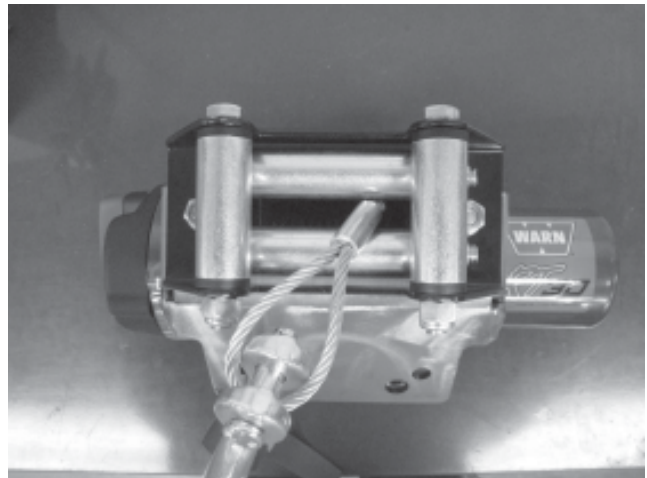

Figure 9
5. Place the fairlead over the adapter bracket, feeding the bolts through the mounting holes on the fairlead. Tighten two lock washers with two M10 nuts using a 16mm socket and 17mm wrench. Install the hook by placing the clevis pin through the hook and securing with cotter pin. (Figure 9)